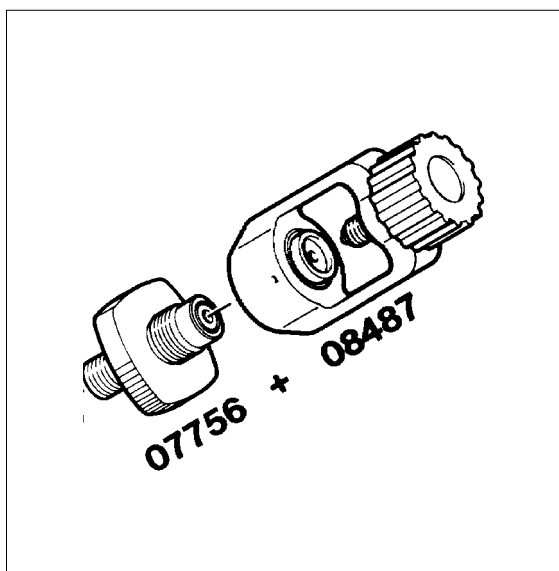

Fig. 40 International filling connector
- Air bottles with international filling connector can be connected with filling adaptor (PN 08487-635) to the German filling connector (see Fig. 40).